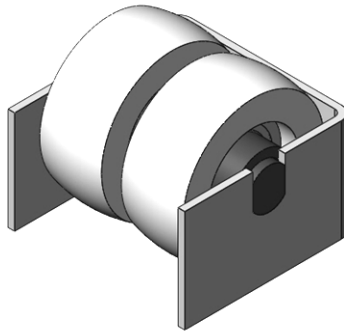

Fig 4-4
4.4 Remove the 24 idler wheels supporting the turntable rotation if there is excessive bearing play. If the diameter is less than 53mm or the rotation noise is abnormal, change the bad contact rollers. Pull the contact rollers from roller shelf (Fig 4-4)